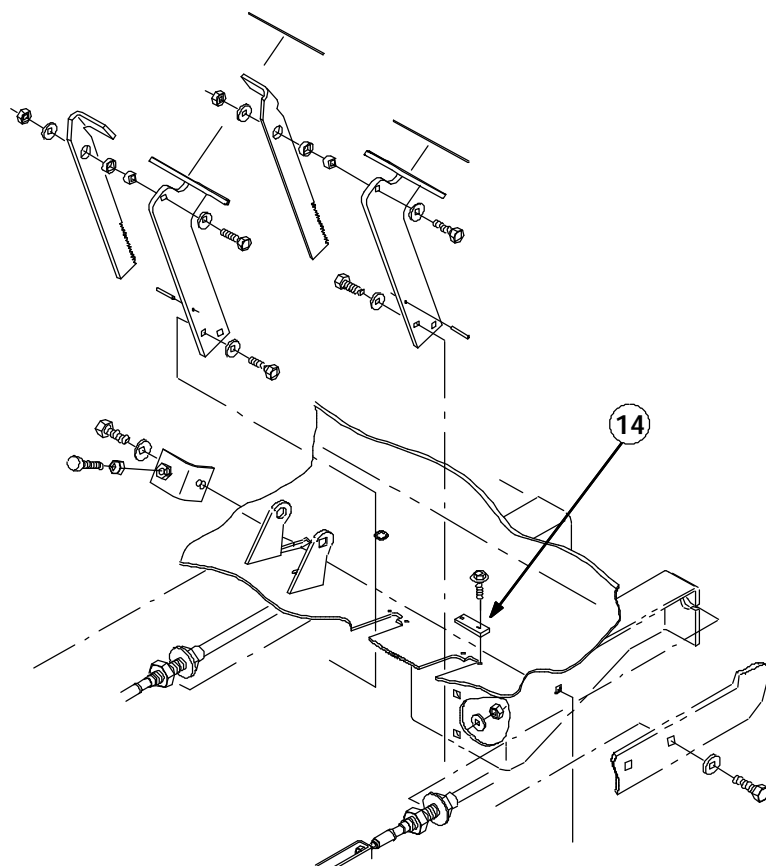

FIG. 4 NEW BRAKE PLATE INSTALLATION
26. Install new parking brake plates (14) using existing hardware. (Refer to FIG. 4)
27. Install label (17) in front of throttle lever on side shroud.